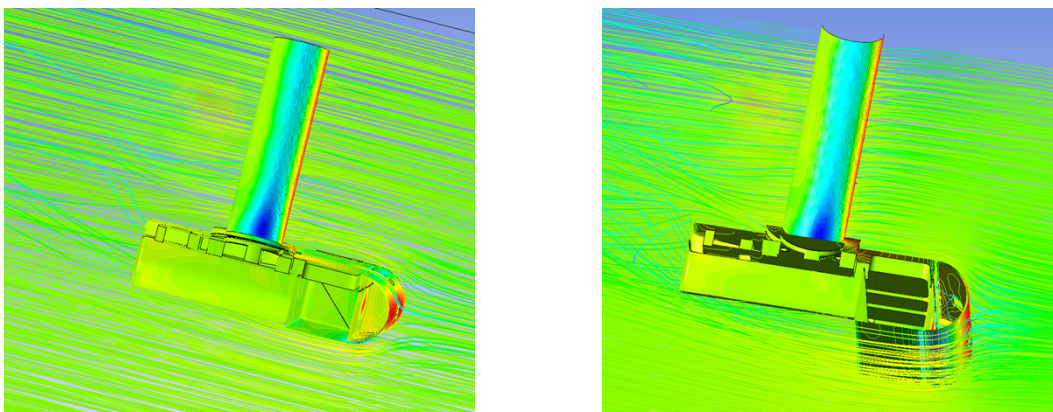
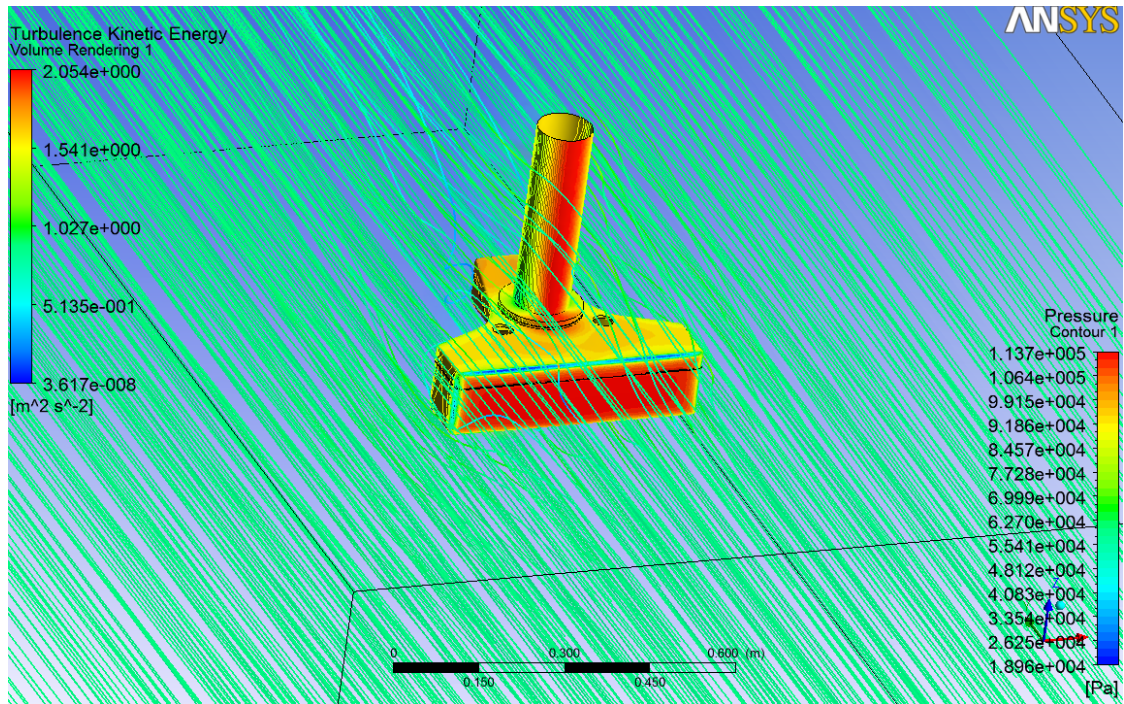
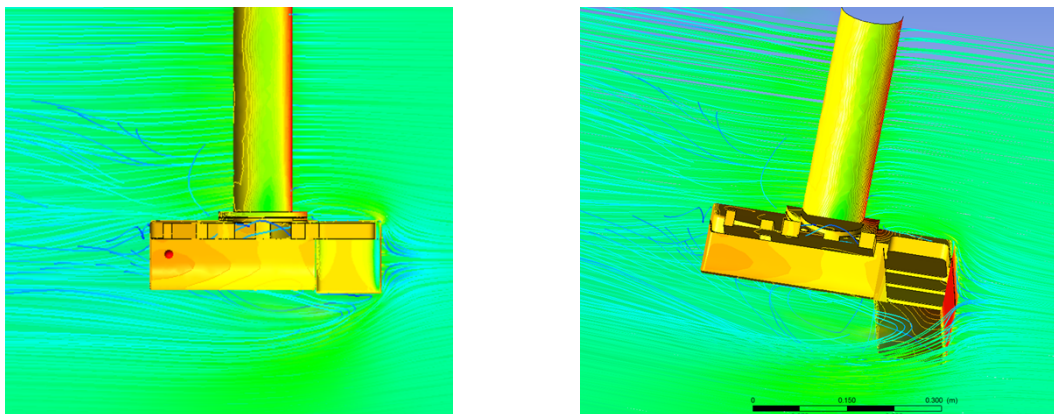

Figure 52: Flow around Single T50 (shallow) with Fairing, Cross Section of Symmetry Plane
Figure 53: Flow at 10 knots around Single T50 (shallow) without Fairing
Figure 54: Flow around Single T50 (shallow) without Fairing, Cross Section of Symmetry Plane
- T50 single head (shallow¹⁸) **with** front fairing (*Figure 51* and *Figure 52*) or **without** front fairing (*Figure 53* and *Figure 54*).
Figure 51 illustrates the flow at 10 knots around the T50 single head (shallow) with front fairing. The drag on the pole, sonar head, and bracket is in the region of 650N. The same situation without front fairing is shown in Figure 53.
Figure 52 is a cross section of the symmetry plane of the T50 single head (shallow). The front fairing and bracket assure a steady water flow around the receiver and projector. The same situation without front fairing is shown in Figure 54.
Figure 53 illustrates the flow at 10 knots around the T50 single head (shallow) without front fairing. The drag on the pole, sonar head, and bracket is in the region of 1000N. The same situation without front fairing is shown in Figure 51.
Figure 54 is a cross section of the symmetry plane of the T50 single head (shallow). Without the front fairing the flow is still reasonable, but not as steady as with the fairing in front of the receiver. The same situation with front fairing is shown in Figure 52.